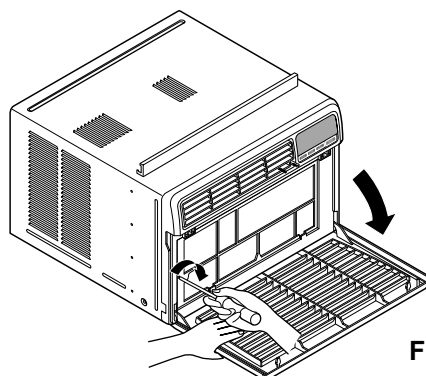

Fig. 11
14. Pull down the inlet grille and secure it with a Type A screw ⑤ through the front grille. (See Fig. 11)